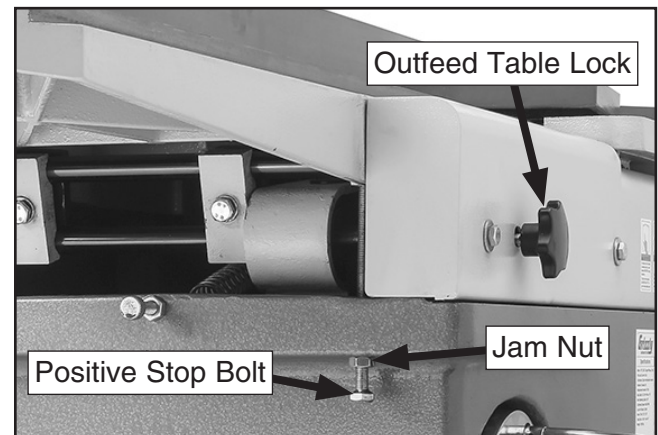

Figure 44. Location of outfeed table lock, positive stop bolt, and jam nut.
- Loosen outfeed table lock and positive stop bolt jam nut (see **Figure 44**).